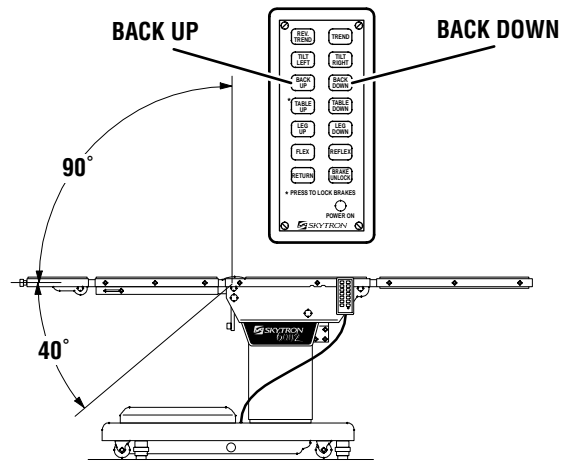

Figure 3-6. Back Section Positioning
**d. Back Section.** To raise the back section, press the BACK UP button (figure 3-6). The back section will raise up to 90° above horizontal. To lower the back section, press the BACK DOWN button. The back section will go down to 40° below horizontal.